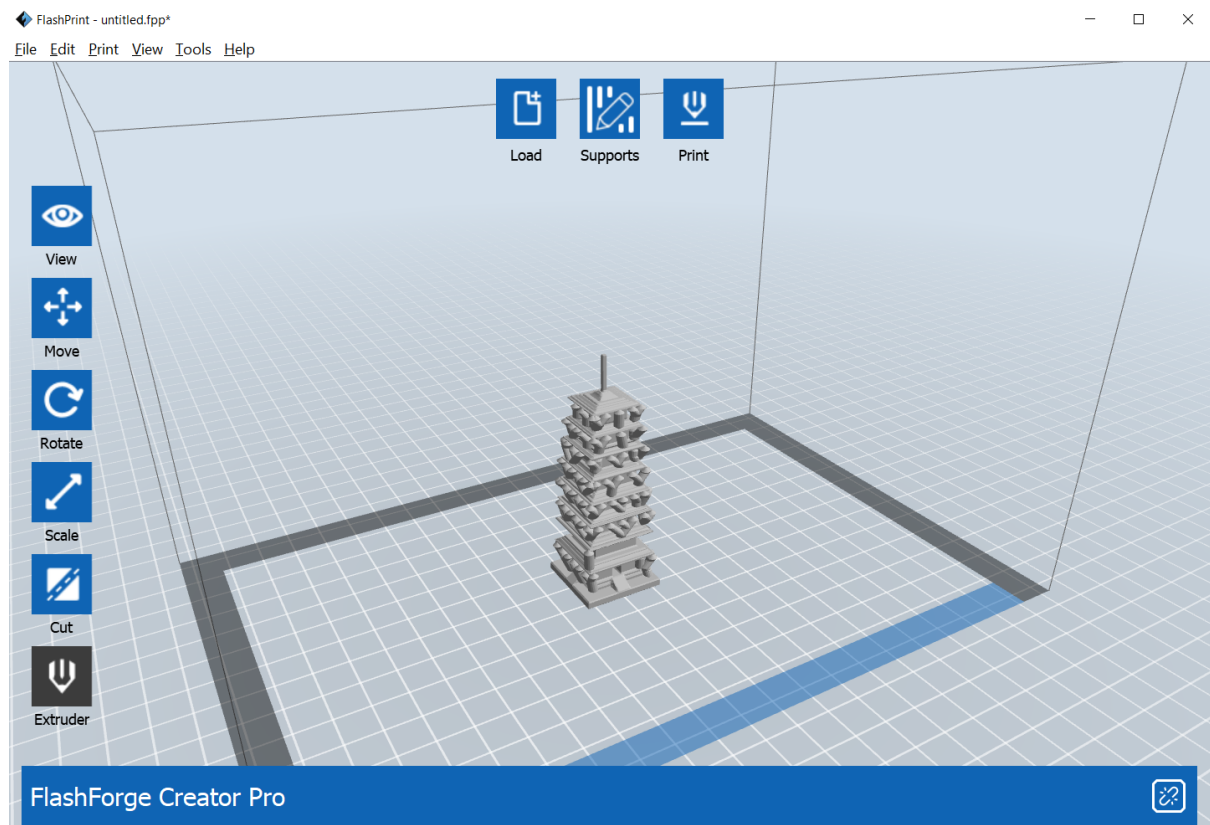

Fig 2. Creating supports for the model
- May need to create some kind of support, as shown in Fig 2.